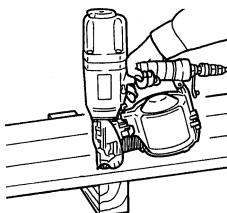

Fig. 7
- Take precautions to ensure the safety of persons in the vicinity during operation. You may rest the tool on a level surface as shown in Fig. 7. Be sure not to apply the force downward onto the tool to the extent the push lever is engaged.